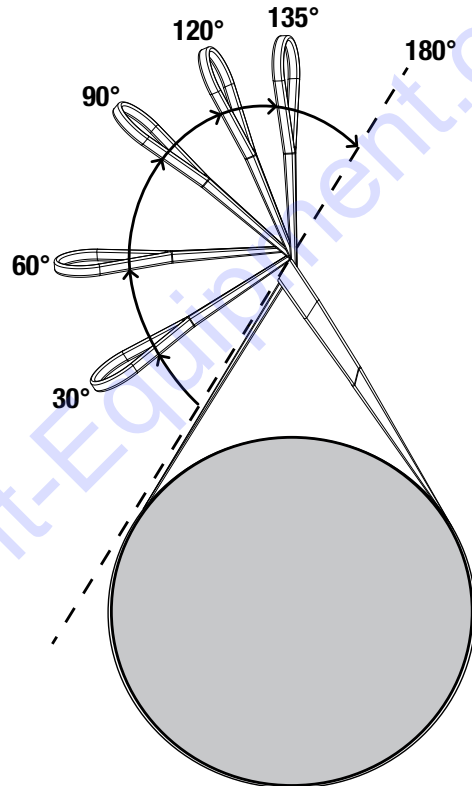
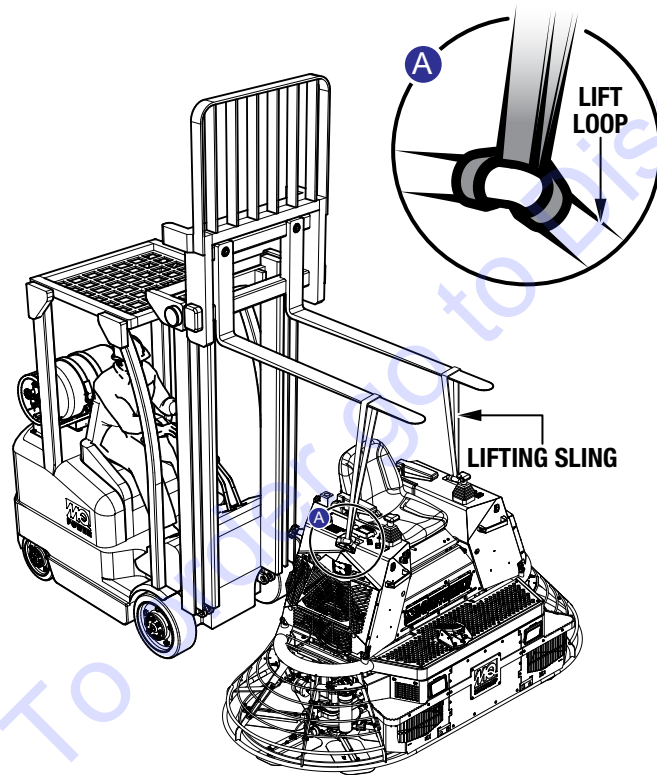

Figure 3. Choke Angle
Figure 2. Lifting the Trowel
1. Secure the two lifting slings to the lift loops located on the left and right side of the trowel (Figure 2).
2. Insert forklift forks through the loops at the ends of the lifting slings (Figure 2). Keep the slings as close to vertical as possible. If the choke angle (Figure 3) is 120 degrees or less, the lifting strength of the slings must be de-rated as shown in Table 1, in accordance with ASME Standard B30.9.